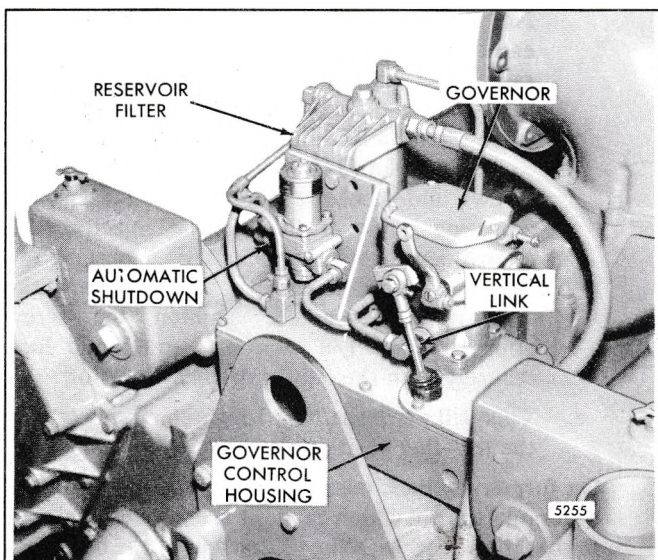

Fig. 2 - Hydraulic Governor Mounting and Linkage (Current with Vertical Link)
3. Disconnect the yield link assembly or vertical link assembly from the governor operating lever (Fig. 2).